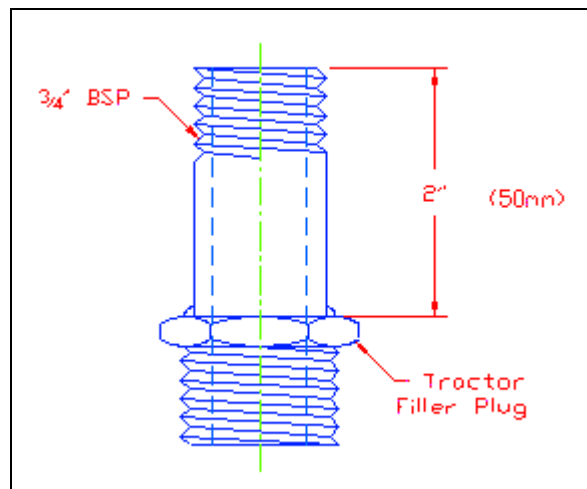

Figure 2 - Modification to Filler Plug
4. Supply $\frac{3}{4}$ " B.S.P. end cap to seal hydraulic system when post driver is removed from the tractor. Refer to Figure 2 below.